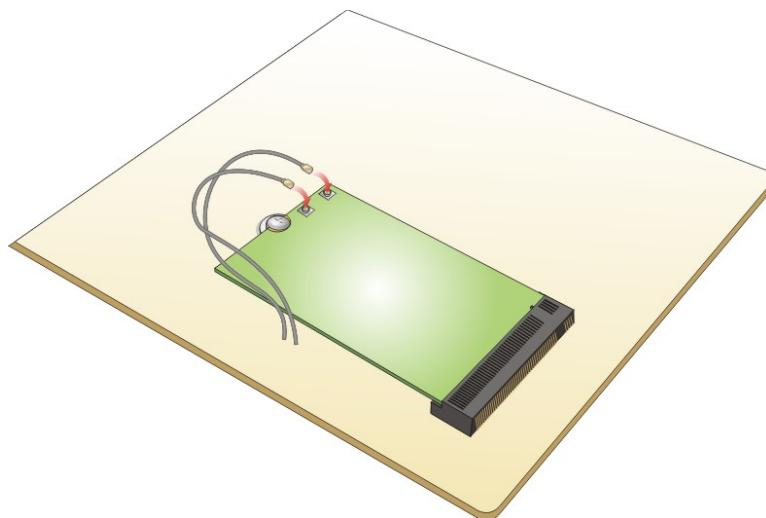

Figure 3-8: Connecting RF Cables
Step 6: Secure the WLAN module with the retention screw previously removed (Figure 3-8).
Step 7: Connect the two RF cables to the antenna connectors on the WLAN module (Figure 3-8).